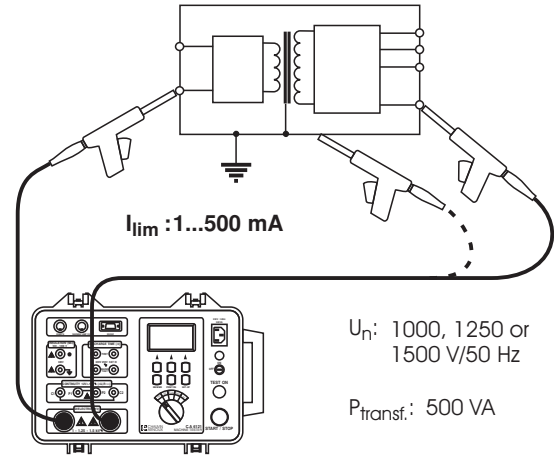

Fig.8. Connection of test probes
3. Connect the test probes (guns) to the instrument as shown in the figure 8.